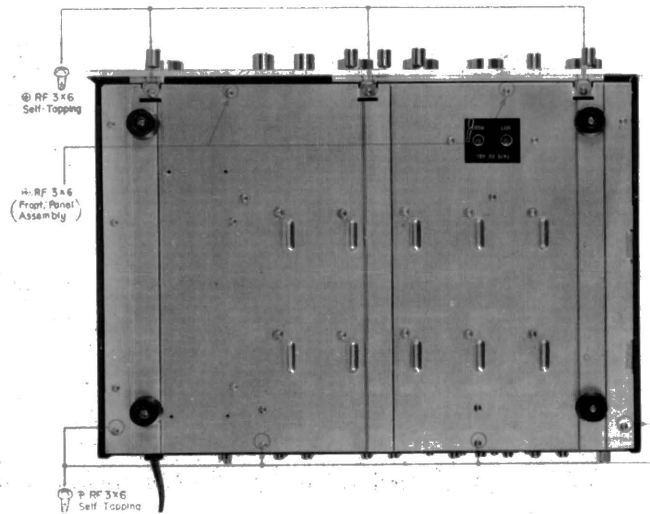

Fig. 2-3. Removal of Front-Panel Ass'y
- d. Turn the set over and remove the two self-tapping screws (+RF3 ϕ ×6) from the front-bottom edge of the chassis. See Fig 2-3.
- Turn the set over and remove the three Phillips-Head screws (+RF3 ϕ \times 6) at the front-bottom edge of the chassis. See Fig. 2-3. This frees the Front Panel.